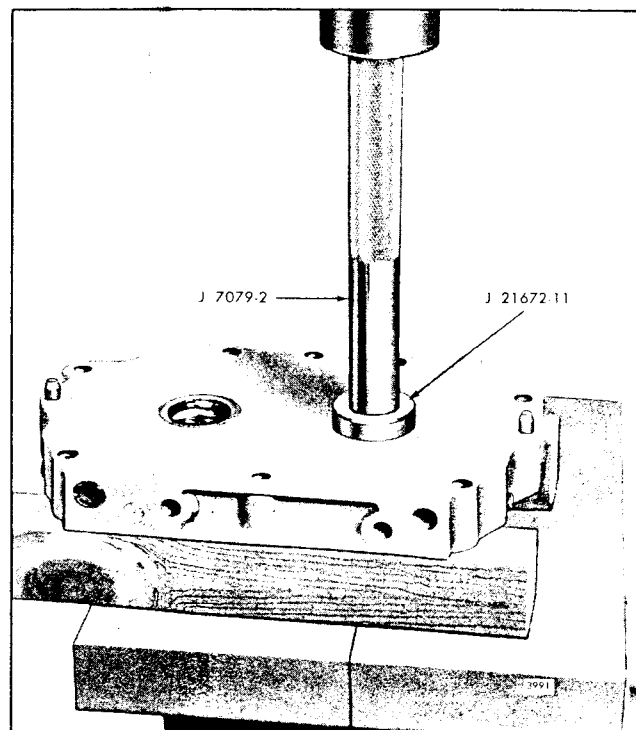

Fig. 8 - Removing Oil Seal and Roller Bearing from Rear End Plate (Former Blower)
- a. Support the blower end plate, inner face up, on two wood blocks on the bed of an arbor press as shown in Fig. 8.
- b. Place the oil seal remover J 21672-11 with handle J 7079-2 on top of the oil seal and under the ram of the press, then press the oil seal and bearing out of the end plate as shown in Fig. 8. Discard the oil seal.